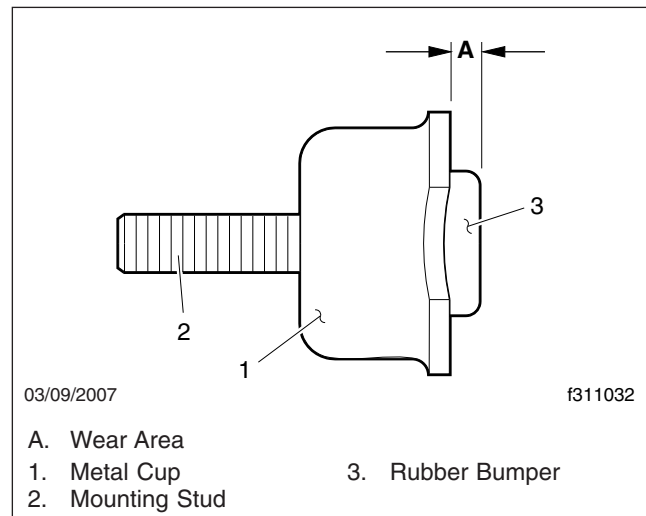
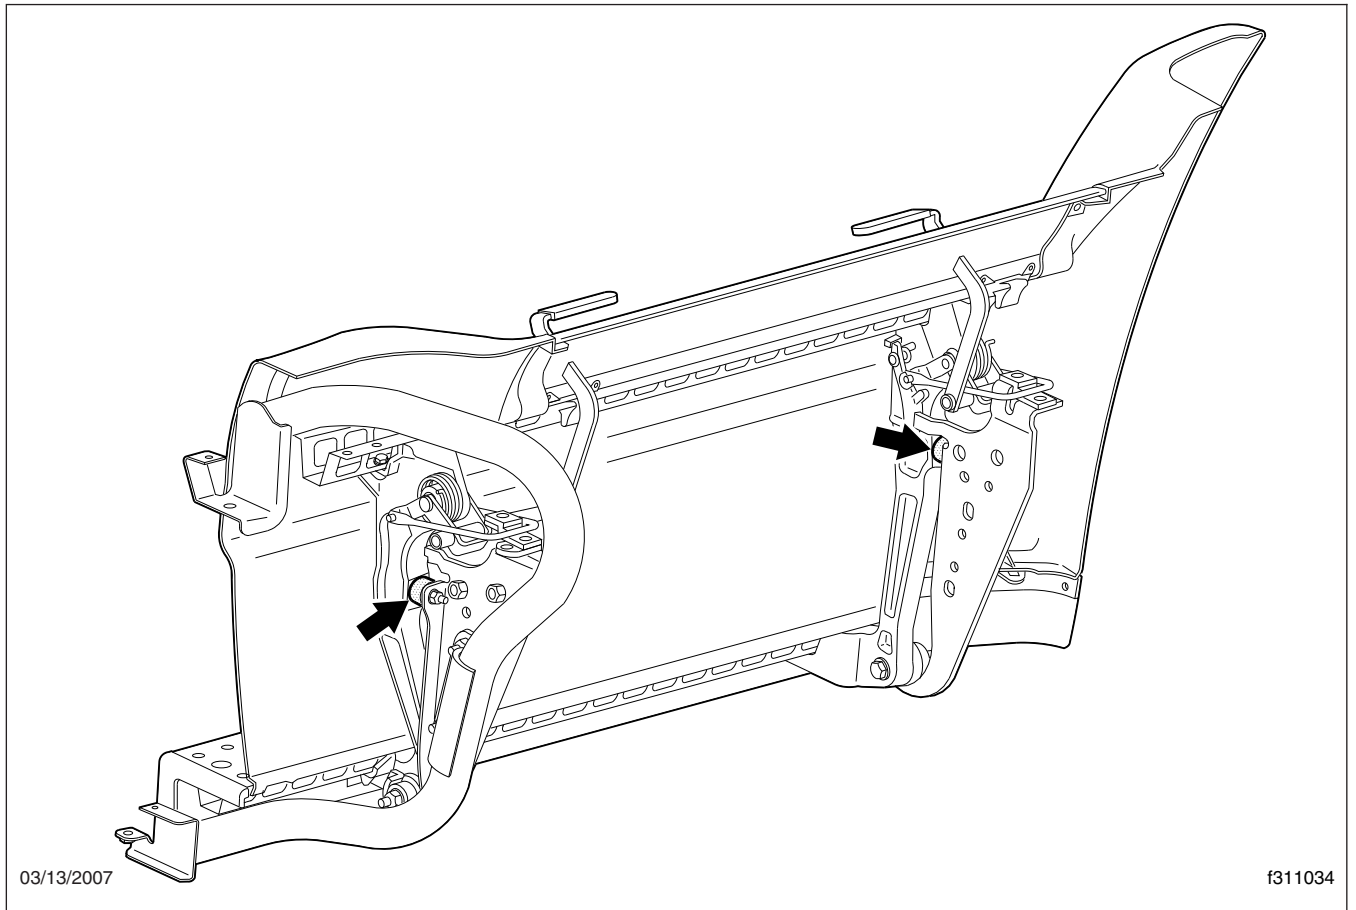

Fig. 11, Fairing Bumper
Fig. 12, Bumper Location
2. Inspect the rubber bumpers for wear. See Fig. 11 for the bumper wear area, and Fig. 12 for the bumper location.